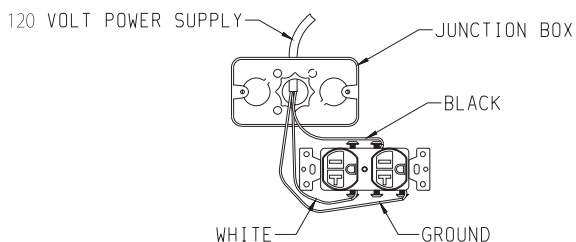

Figure 20
**NOTE:** Junction box on right side of fireplace must be pre-wired at time of fireplace installation for use with blower assembly. A standard wall ON/OFF wall switch or optional SCV1 Variable Speed Control Kit should be installed to activate power to the fireplace, and control the operation of the FBB5 Blower assembly. It is recommended that installation of the wiring be performed by a qualified electrician. **See Figure 20.**